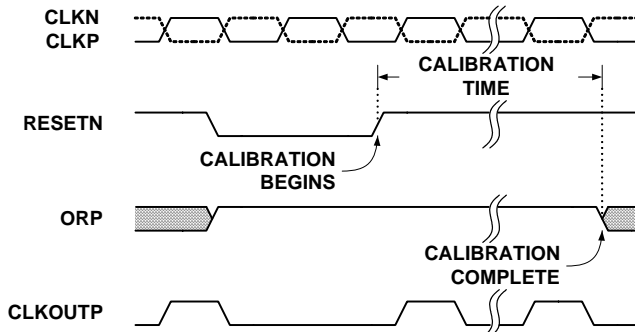

FIGURE 21. CALIBRATION TIMING
The calibration sequence is initiated on the rising edge of RESETN, as shown in Figure 21. The over-range output (OR) is set high once RESETN is pulled low, and remains in that state until calibration is complete. The OR output returns to normal operation at that time, so it is important that the analog input be within the converter's full-scale range to observe the transition. If the input is in an over-range condition the OR pin will stay high, and it will not be possible to detect the end of the calibration cycle.